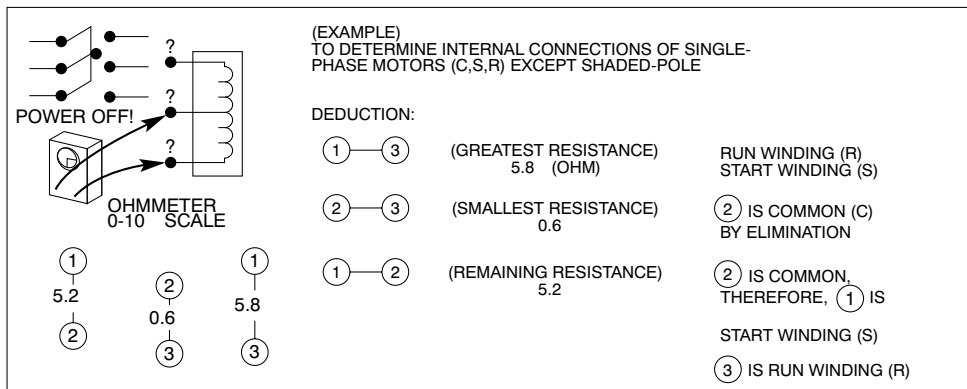

Fig. 18 – Identifying Compressor Terminals
5. Determine 2 terminals that provide greatest resistance reading. Through elimination, remaining terminal must be common (C). Greatest resistance between common (C) and another terminal indicates start winding because it has more turns. This terminal is start (S). Remaining terminal will be run winding (R). (See Fig. 18.)